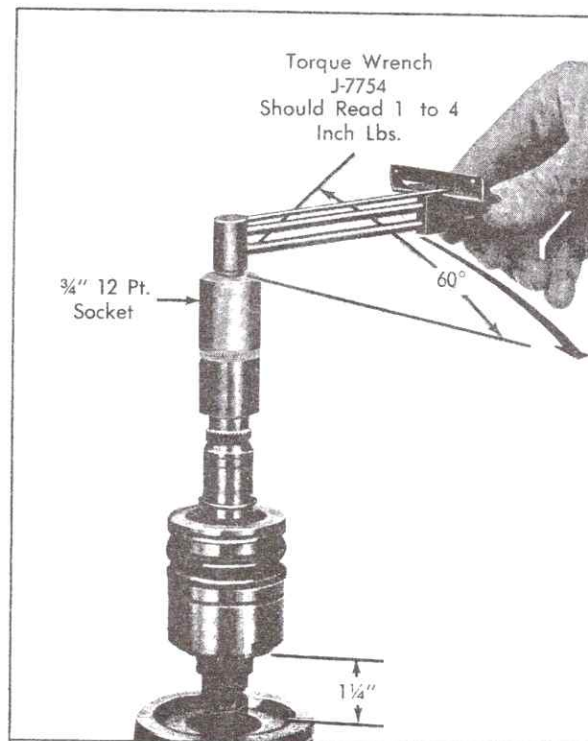

Fig. 9-34 Checking Worm and Rack Piston Ball Preload
d. Place Torque Wrench, J-7754, with a 3/4 inch 12-point socket on stub shaft, Fig. 9-34, and rotate wrench through an arc of approximately 60° in both directions several times, then take a torque reading. Highest average reading obtained with worm rotating should be between 1 and 4 inch-pounds.